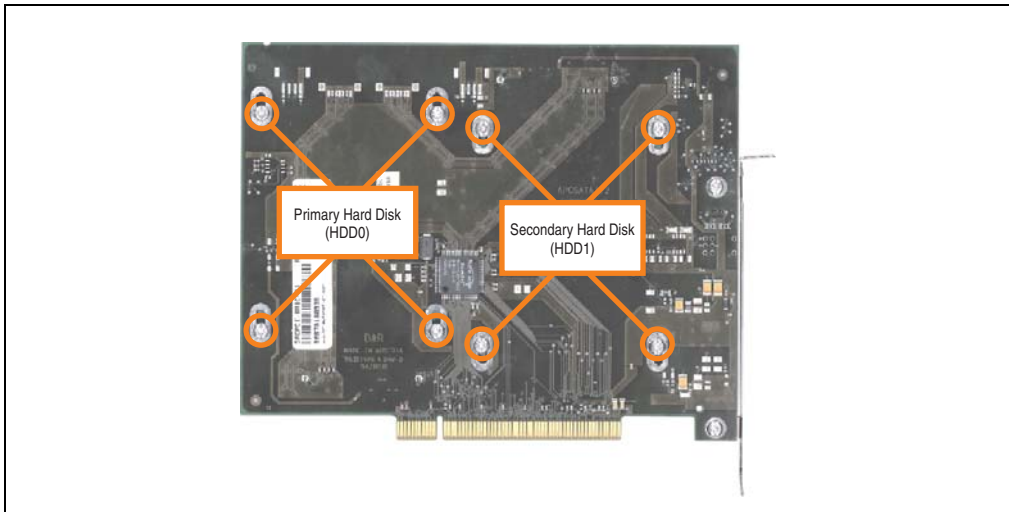

Figure 273: Screw assignment on the back side of the SATA RAID controller
- Loosen the 4 appropriate mounting screws (M3x5) - see Figure 273 "Screw assignment on the back side of the SATA RAID controller", on page 468.